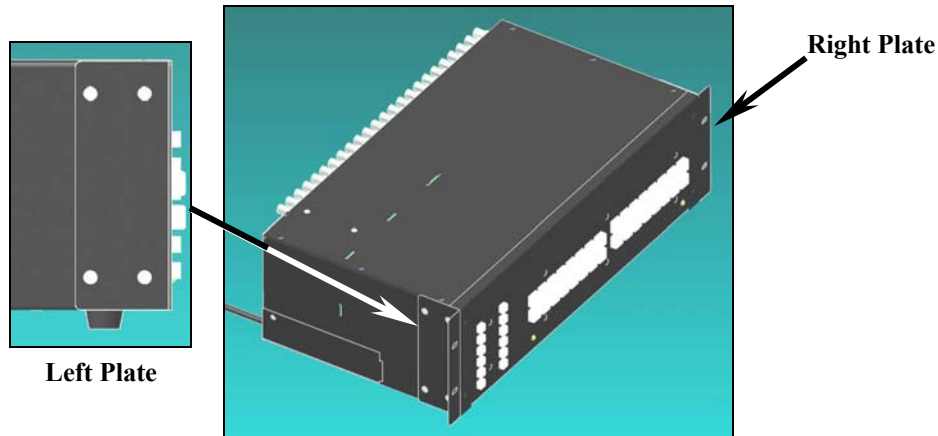

FIGURE 4: 19-inch Rack Mounting Plate
- 19"-rack installation plate removal (see Figure 4):